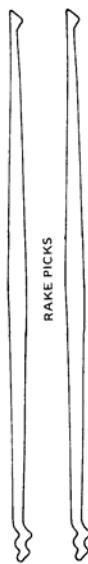

Fig. 10
4. A small set of lock picks and torsion wrench. These can be purchased from a locksmith supply house or made yourself. In Figure 10, 11, & 12 you will find full size templets for two of the most popular picks, and a standard shape torsion wrench. Any source of steel that is approximately .025 inch thick may be